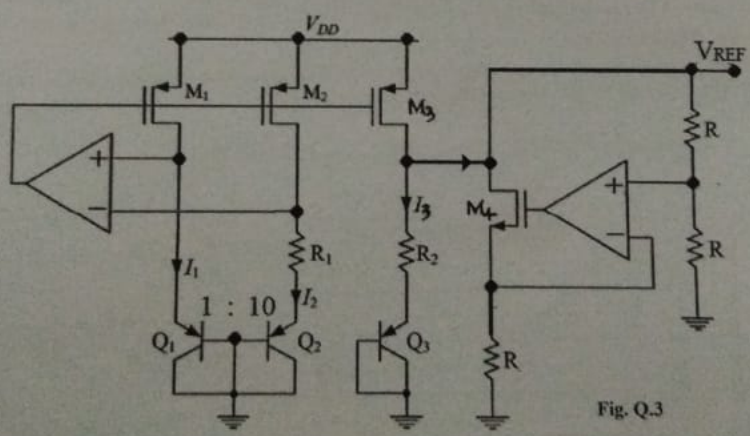

Fig. Q.3
Q.3. For Bandgap reference circuitry shown in Fig. Q.3, assume all the resistances are independent of temperature and opamps to be ideal. Emitter area of BJTs Q_1 and Q_2 are in the ratio: $A_{E1} : A_{E2} = 1 : 10$. Transistors M_1, M_2, M_3 are perfectly matched and have equal W/L ratio.